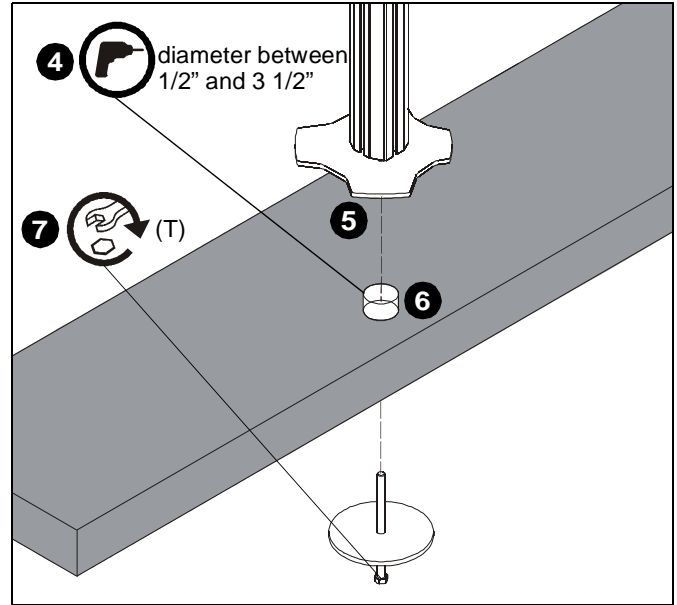

Figure 3
4. If a hole doesn't already exist, drill a hole in desk with a diameter between 1/2" and 3 1/2" at desired mounting location. (See Figure 3)
5. Position mount on desk so that center hole of grommet plate (U) is centered over grommet hole. (See Figure 3)
6. Insert grommet screw (T) through grommet hole and thread into center hole of grommet plate (U). (See Figure 3)
7. Tighten grommet screw (T) until grommet base is tightened against underside of desk and mount is securely mounted to desk. (See Figure 3)